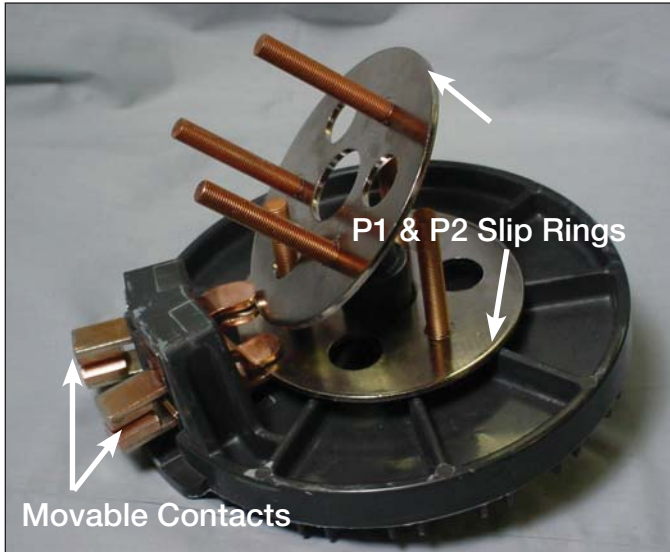

Figure 20.
- Remove the P1 and P2 slip ring from the movable contact and Geneva Gear Assembly by lifting the ring stud assembly upward on the opposite side of the movable contact button. To help in identifying the slip ring see Figure 21. Slide the slip ring out of from between the movable contact button. See Figure 20. Repeat this process for the second slip ring stud assembly.